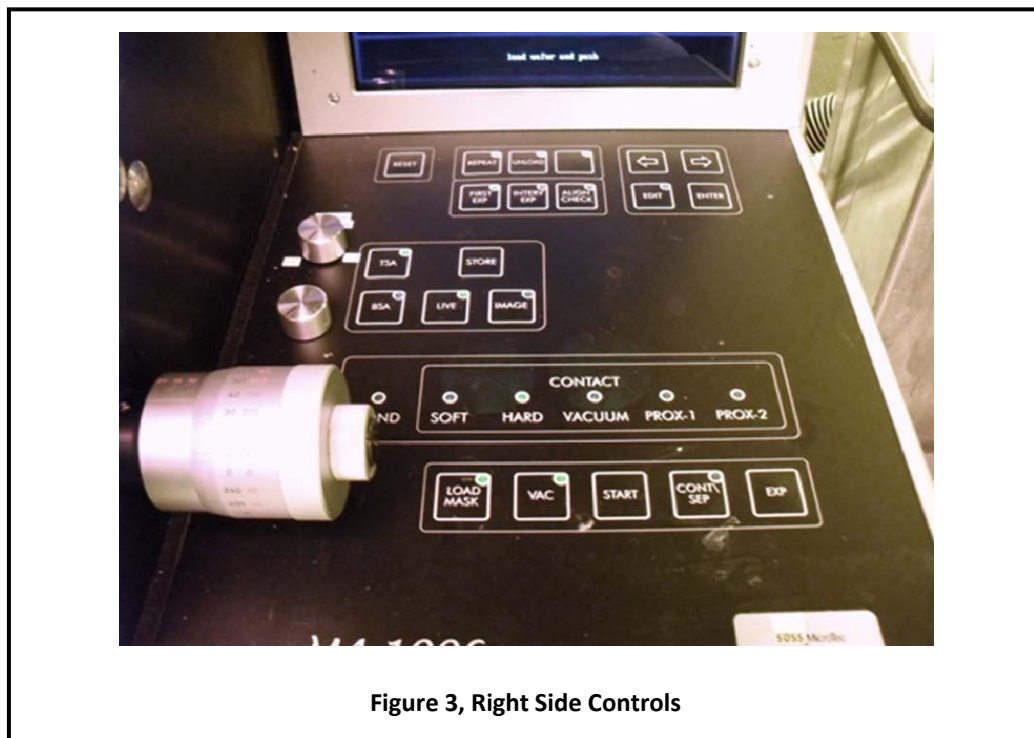

Figure 3, Right Side Controls
- Figure 3, Right Side Controls 4
- 6.4.1 Press edit twice. See *Figure 3, Right Side Controls*.
- 6.4.1.3 Press enter. See *Figure 3*.
7.1.6 Press 'Load Mask' (light should go off). See *Figure 3*.
7.1.7 Press 'First Exp' (so that the light goes off). See *Figure 3*.
7.1.8 Press 'Align Check' (so that the light goes on). See *Figure 3*.
7.1.9 Press 'Start' (microscope moves over). See *Figure 3*.
7.3.1 Press 'Exp' twice (microscope moves off and exposure lamp moves over). See *Figure 3*.